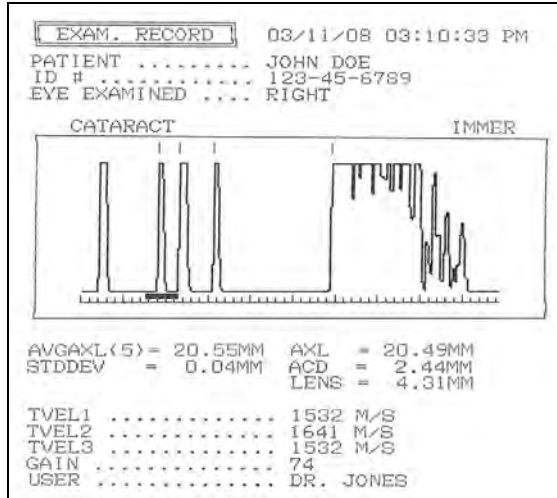

Figure 3-11 Immersion Mode Record Print
6. ***Automatic Image Capture.*** If the scan meets all the parameters of the selected examination mode, it will immediately be frozen, saved and a long audible tone will be emitted signifying that the instrument has accepted the measurement. The proper location of the corneal echo should be confirmed on the scan waveform (see Figure 3-11). The first spike seen on the waveform is the probe "main bang" followed by the corneal echo. The acceptable position for the corneal echo is indicated by the corneal echo window (horizontal white bar) displayed below the waveform. The echo from the cornea must fall within this window for a proper immersion scan. If the corneal echo is outside of this window, the position of the probe within the Prager Shell should be adjusted accordingly.